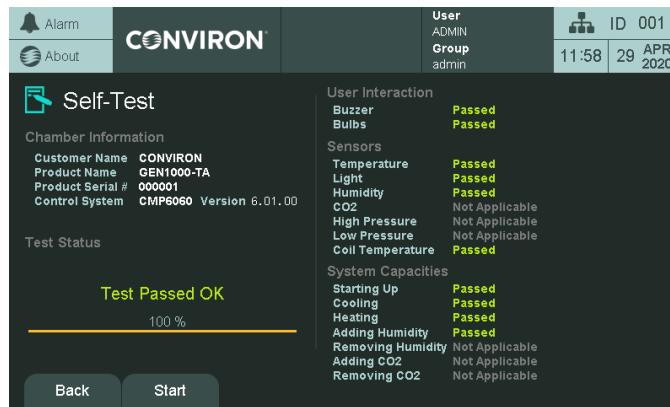

Figure 10-13 Self-Test Mode Results Example
10. Once testing is complete, an overall Pass or Fail result will be displayed along with the individual Pass or Fail test results (Figure 10-13). Refer to Section 10.4.3 Self-Test Mode Results, starting on page 122 for further explanation on the pass/fail results.
7. Once testing is complete, an overall Pass or Fail result will be displayed along with the individual Pass or Fail test results (Figure 10-13). Refer to Section 10.4.3 Self-Test Mode Results, starting on page 122 for further explanation on the pass/fail results.